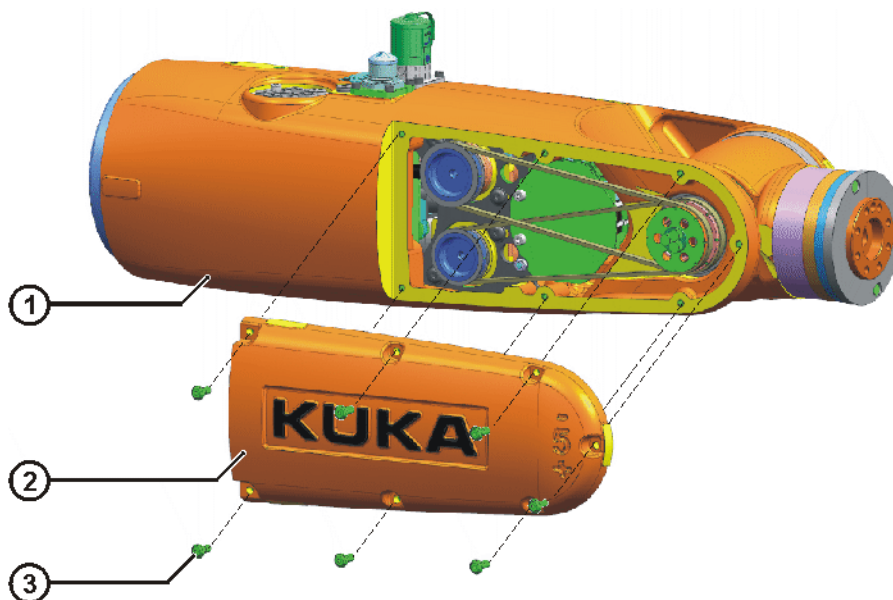

Fig. 9-3: Removing the cover from the in-line wrist – example
1. Remove 7 M3x10-10.9 fillister head screws from the cover and take off the cover (>>> Fig. 9-3).